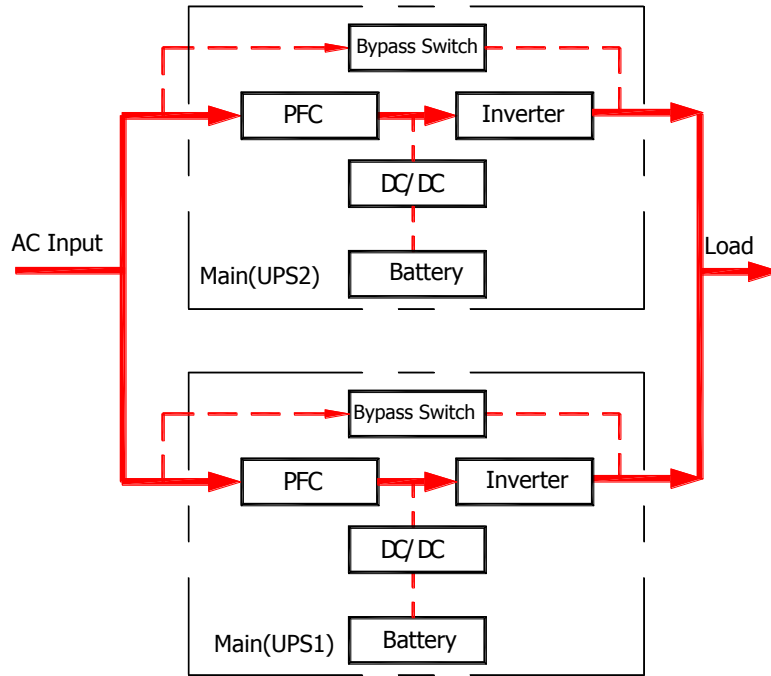

Fig 3.2-2 Working mode of utility normal
- 1、 Working mode of utility normal (solid line is Energy flow of UPS) as shown in Fig.3.2-2.